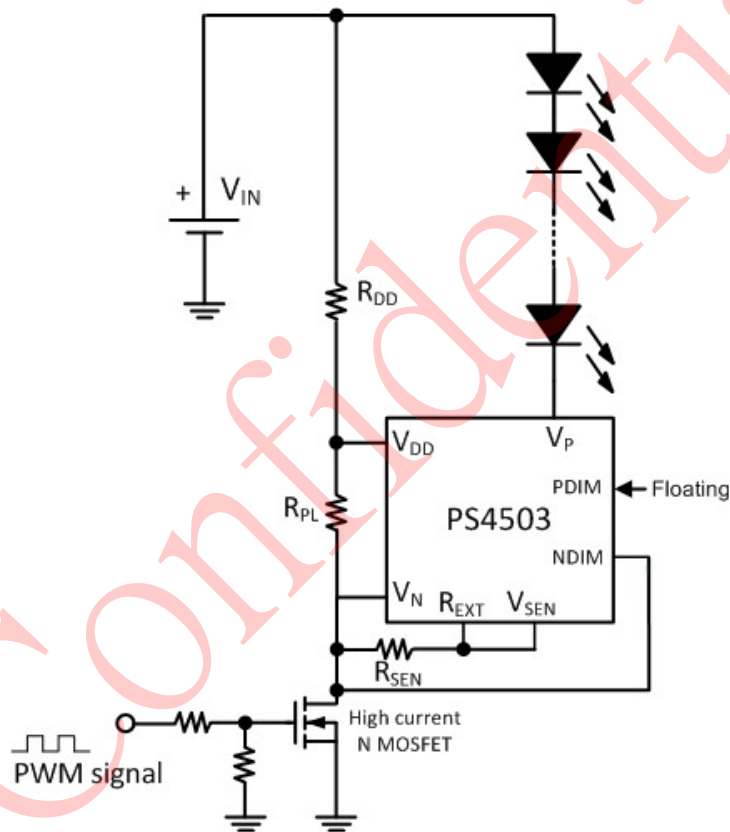
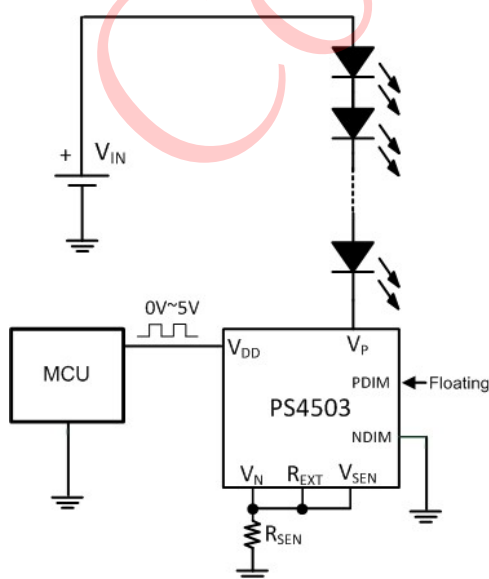
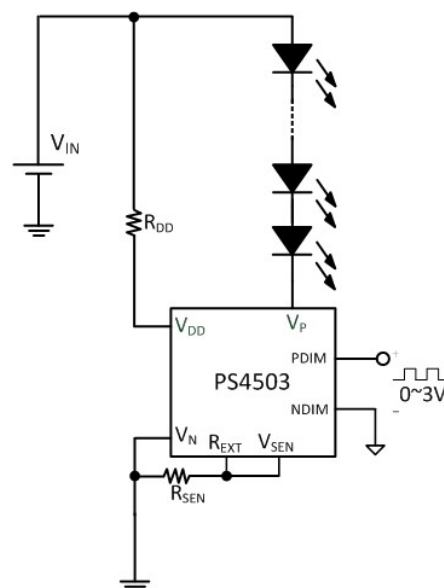

Figure 9. PWM dimming by external MOSFET
Figure 13. PWM dimming by MCU
Figure 14. PWM dimming by PDIM and NDIM
Figure 9 is the best PWM dimming application circuit. To achieve LED dimming in an LED driving circuit with the PS4503, you can use a MOSFET to switch the power supply. The brightness is controlled by the duty cycle of a PWM (Pulse Width Modulation) signal. Resistor R_{DD} and R_{PL} act as a voltage divider to generate the proper V_{DD} voltage for PS4503 and discharge the residual charge on power line while the switch MOSFET is off. To discharge the residual charge is important because it will cause instability in dimming control, resulting in flickering or inconsistent brightness. The duty cycle of the PWM signal is defined as the ratio of the LED on time (T_{ON}) to the entire cycle time (T). The duty cycle of the PWM signal is shown in Figure 10. Figure 11 shows the current accuracy with different duty cycle.
Figure 12 shows the self-bias dimming circuit. The advantage is no need of resistor for PS4503 biasing. In many compact LED applications this will mostly reduce the procedure of production. The disadvantage is the PWM dimming frequency should be lower. It is suggested the frequency should be lower than 1KHz to get better dimming control. Both switch N MOSFETs in Figure 9 and Figure 12 are to switch the total power of LED loads, so it should have lower R_{DS} resistance and larger power dissipation capability to minimize the power lost and heat generation. If a simpler PWM dimming method is used, the MCU can send a PWM signal (0~5V) through the GPIO pin to control the VDD ON-OFF time to achieve dimming purposes (Figure 13). Or the dimming function can be realized by sending a differential voltage signal of 0~3V through the PDIM and NDIM pins (see Figure 14).